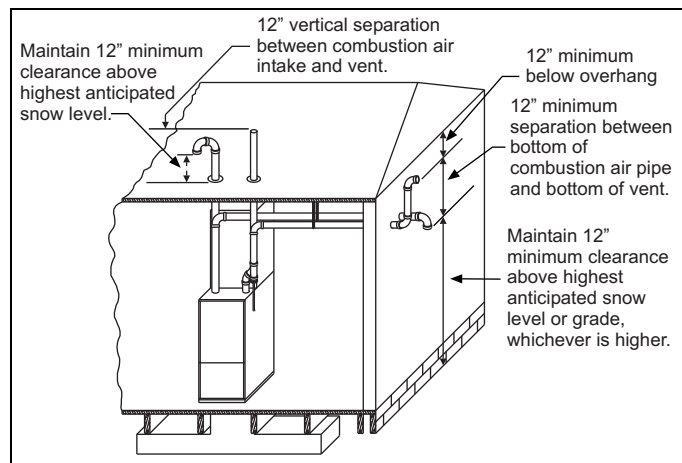

Figure 21: Termination configuration - two pipe
- Direct vent systems must be installed so the vent and the combustion air pipes terminate in the same atmospheric zone. See Figures 21 and 22.
- **Outdoor combustion air:** This is a direct vent configuration where the combustion air is supplied through a PVC, CPVC, or ABS pipe that is connected to the coupling attached to the furnace and is terminated in the same atmospheric zone as the vent. This type of installation is approved on all models. See Figures 21 and 22.